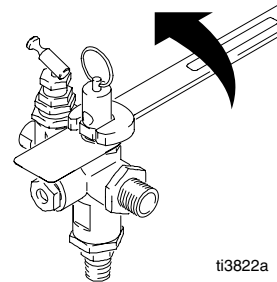

Fig. 16 _____
5. Unscrew unloader valve and remove from fitting. Fig. 16.